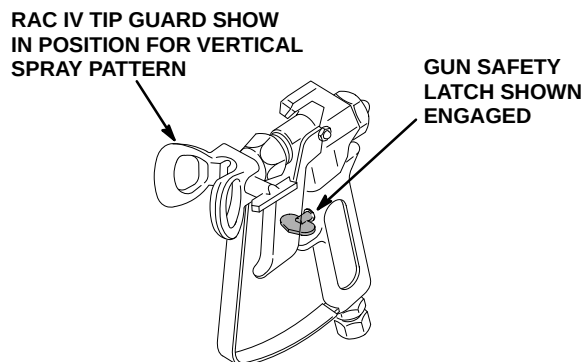

Fig 5
8. **Install the spray tip and tip guard.** Engage the gun safety latch. See Fig 5. Install the spray tip according to the instructions supplied with it.